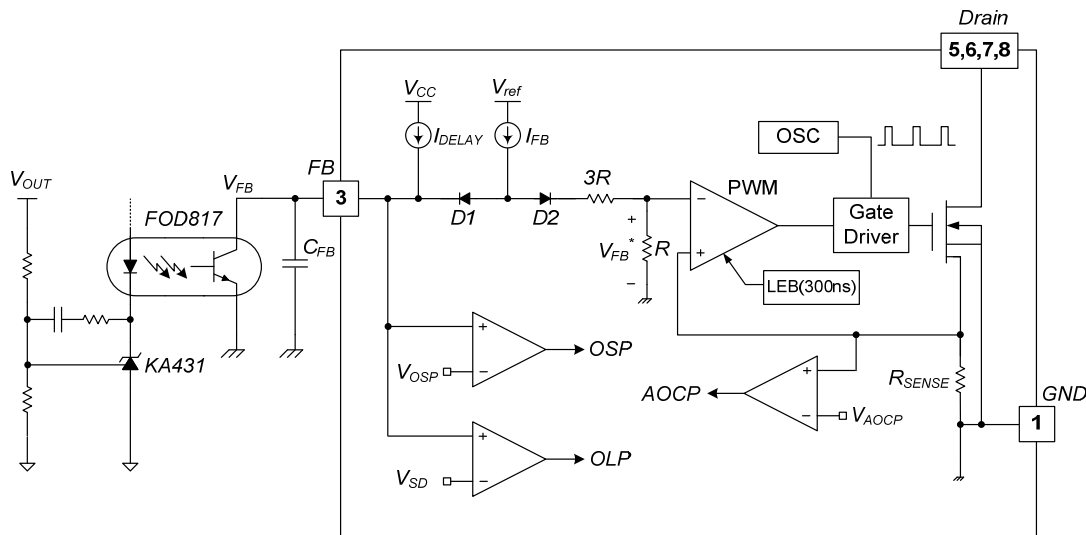

Figure 18. Pulse Width Modulation Circuit
3. Feedback Control: This device employs Current-Mode control, as shown in Figure 18. An opto-coupler (such as the FOD817) and shunt regulator (such as the KA431) are typically used to implement the feedback network. Comparing the feedback voltage with the voltage across the R_{SENSE} resistor makes it possible to control the switching duty cycle. When the reference pin voltage of the shunt regulator exceeds the internal reference voltage of 2.5V, the opto-coupler LED current increases, pulling down the feedback voltage and reducing drain current. This typically occurs when the input voltage is increased or the output load is decreased.
3.1 Pulse-by-Pulse Current Limit: Because Current-Mode control is employed, the peak current through the SenseFET is limited by the inverting input of PWM comparator (V_{FB}^*), as shown in Figure 18. Assuming that the $90\mu A$ current source flows only through the internal resistor ($3R + R = 25k\Omega$), the cathode voltage of diode D2 is about 2.8V. Since D1 is blocked when the feedback voltage (V_{FB}) exceeds 2.8V, the maximum voltage of the cathode of D2 is clamped at this voltage. Therefore, the peak value of the current through the SenseFET is limited.